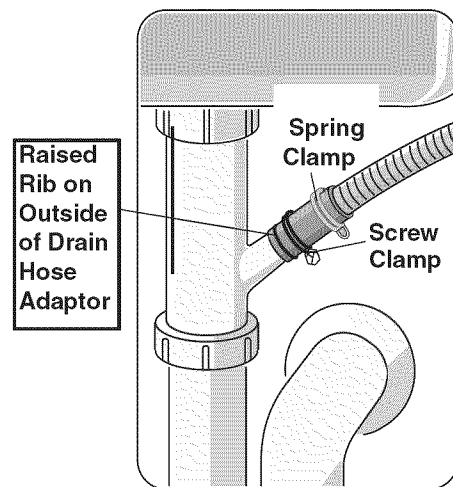

Figure 24
- 3 Secure the connection with the Spring Clamp (see **Figure 24**).
- 4 Use the Screw Clamp to attach the Rubber Drain Hose Adaptor to the house plumbing (see **Figure 24**).